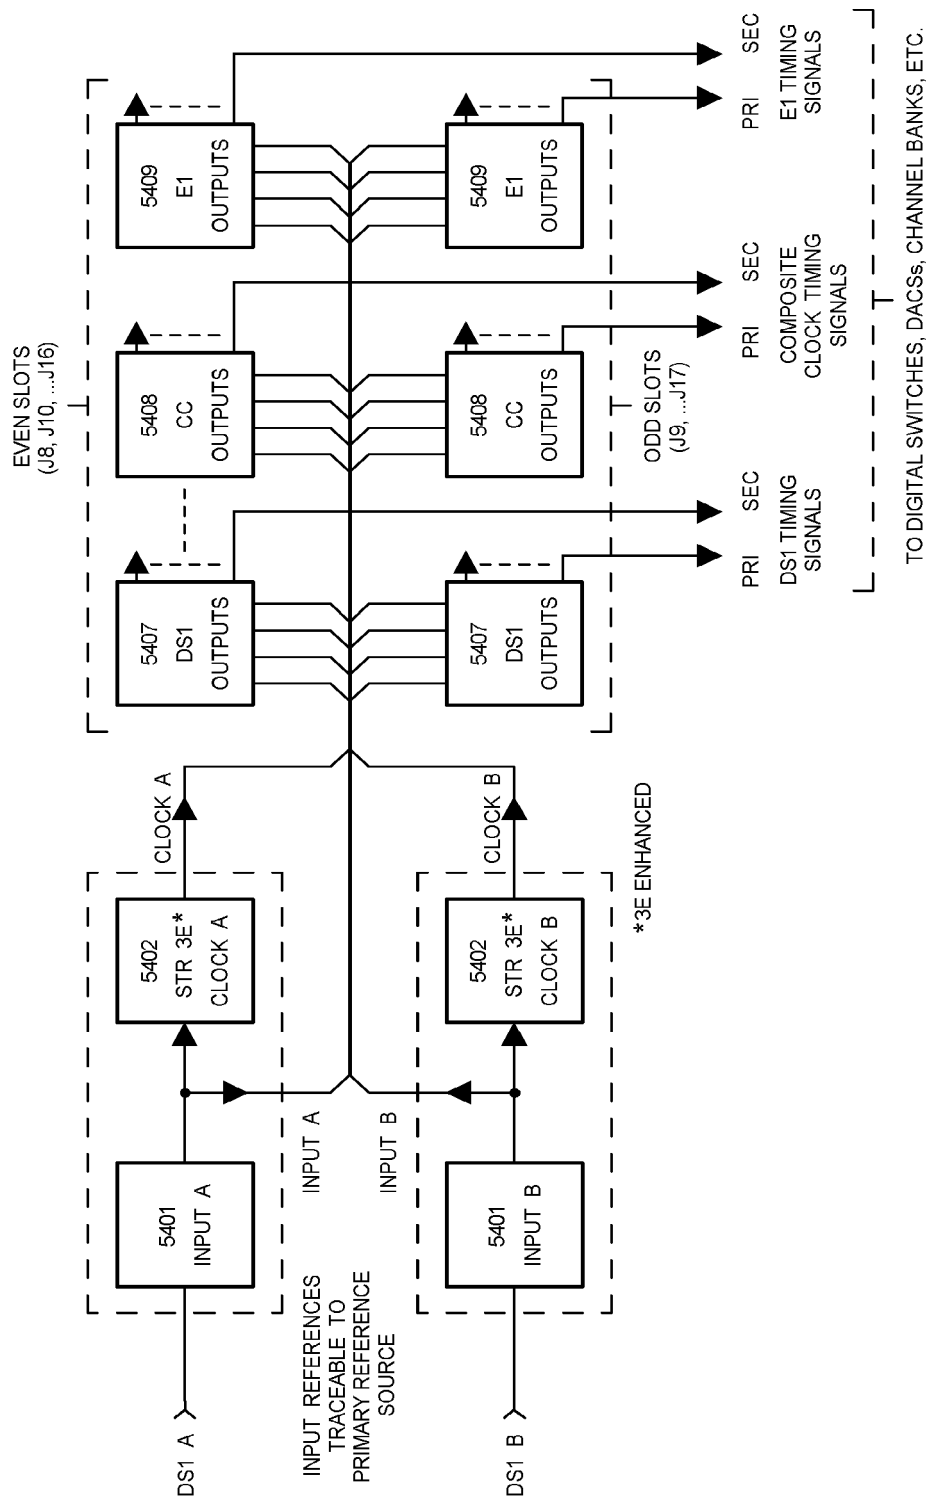

Figure 2-1. Model STS 5400 Stratum 3E Enhanced Application Diagram (5402)
- 2.17 Figures 2-1 through 2-4 depict the Model STS 5400 system applications.